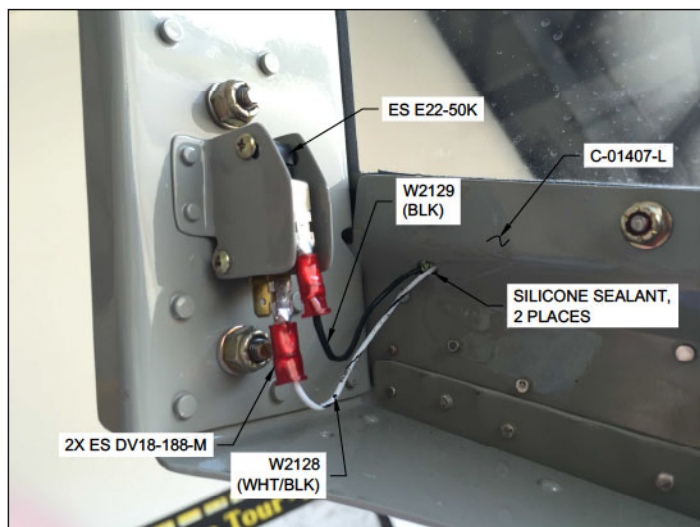

FIGURE 1: CONNECTING TO SWITCH
Step 3: Install the spade connectors on the canopy latch switch wires as shown in Figure 1. Connect the wires to the canopy latch switch as depicted.
Step 4: Apply a small amount of clear silicone sealant to the wire routing holes in the canopy frame at each end of the wire run to prevent wire movement/chaffing. See Figure 1.